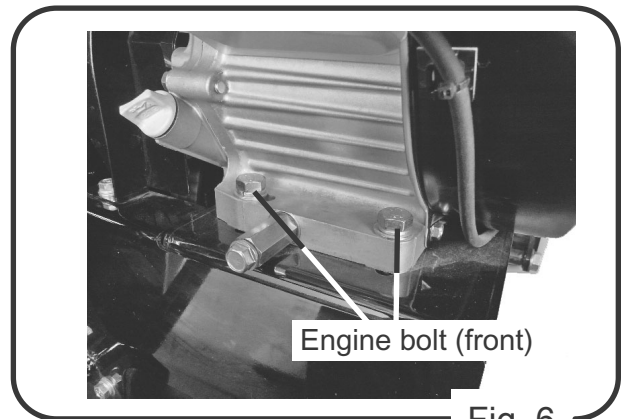

Fig. 6
- B. Loosen the four engine bolts. (Fig. 6)